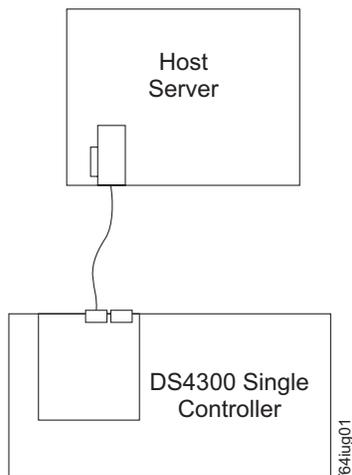

Figure 61. Example of a single server configuration with one adapter (Model 6LU/6LX)
- Single server configuration with one adapter (Figure 61)